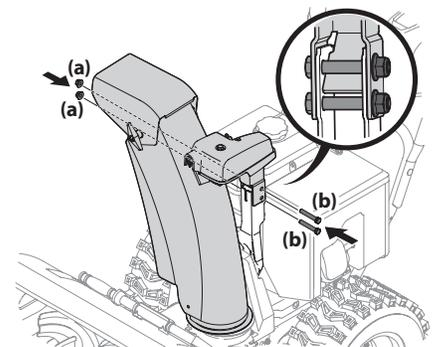

Figure 2-36
- Place chute assembly onto chute base and chute control head onto chute support bracket. See Figure 2-36.
- Secure chute control head to chute support bracket with lock nuts (a) and hex screws (b) removed in Step 1. See Figure 2-36.